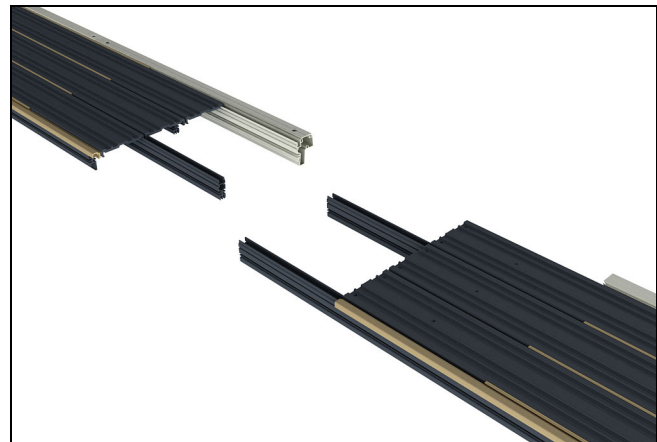

Figure 12
5. Align all components of head jamb sections and slide together. See figure 12.